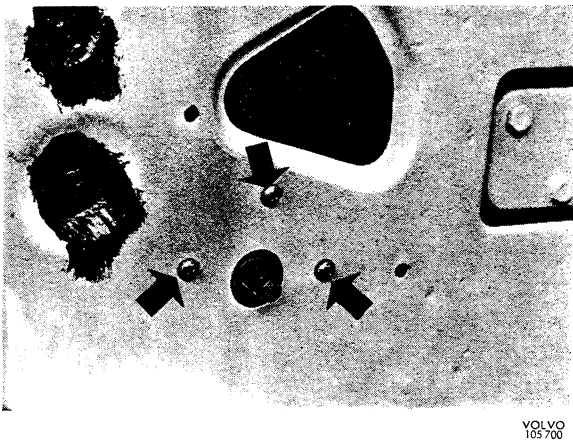

Fig. 8-15. Screws for remote control
3. Unscrew the three bolts for the remote control (see Fig. 8-15) and take out the control from the door.